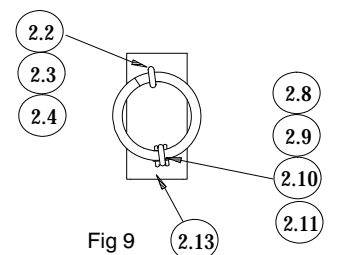

Fig 9
- iv) Place U-bolt (2.8) over the first two coils. Locate the clamping block (2.11) over the threaded ends of the U-bolt, ensuring that the taper and the curved face of the block are the correct way round, and through the top mounting bracket (2.13). Place the remaining U-bolt (2.2) over the first coil and through the top mounting bracket. Secure in position with M12 nuts (2.3) and washers (2.4). Tighten the nuts evenly until the spring is fully secured and in alignment with the base plate to a final torque setting between 34-38 Nm (25-27 lbf ft) (Fig 9).